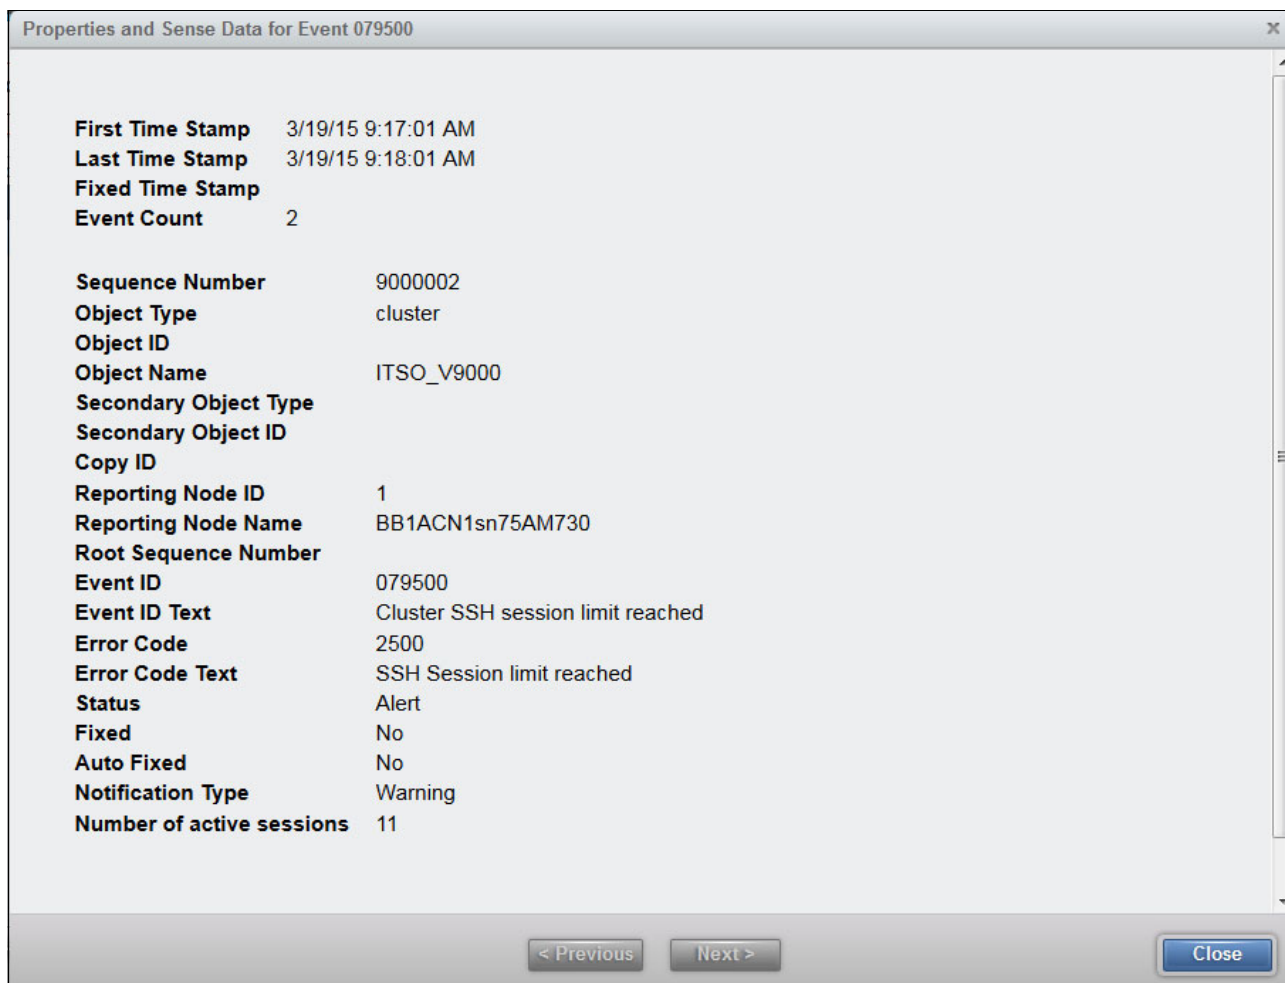

Figure 7-17 Event details
2. To view the details, right-click the error event and select **Properties**. The event details are displayed (Figure 7-17).